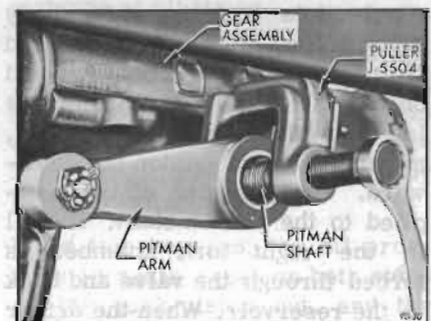

Figure 90-28—Removing Pitman Arm from Pitman Shaft
1. Remove pitman nut and disconnect pitman arm from pitman shaft using puller J-5504. See Figure 90-28.
4. Jack up car and remove the pitman shaft nut, then remove the pitman arm using puller J-5504. See Figure 90-28.